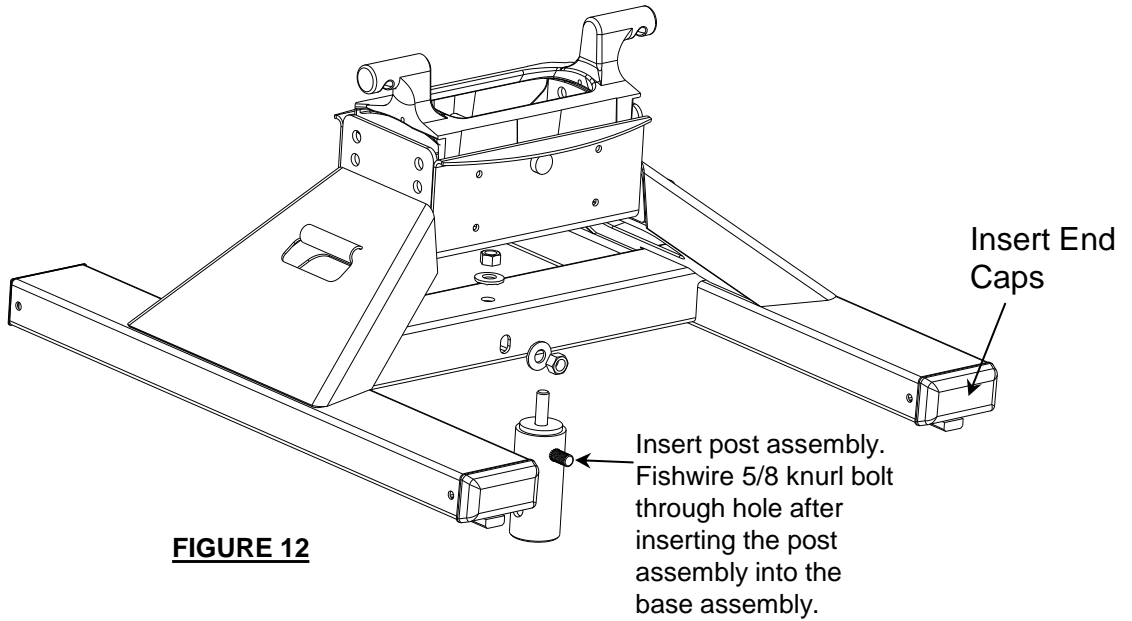

FIGURE 12
5. Insert the post assembly into the gooseneck hitch as shown in Figure 12. Fishwire the 5/8 knurl bolt through the inside of the post assembly and through the horizontal hole in the post and the slot in the base assembly. Loosely tighten the 5/8" conical toothed washers and nylon lock nuts.